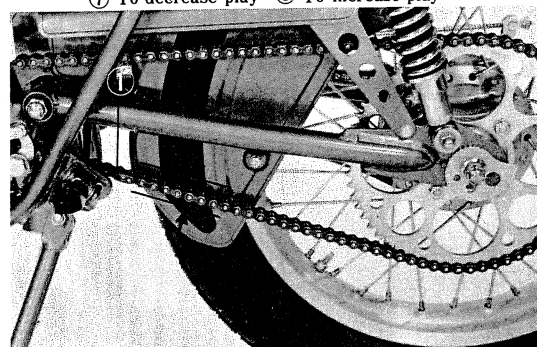

Fig. 10 ① Drive chain
- 1) Check the tension of the drive chain. This is done by moving either of the top or bottom side of the chain up and down with fingers midway between the sprockets. Drive chain tension should be adjusted to allow approximately  $\frac{1}{4}$ " inch vertical movement at this point. (Fig. 10) Rotate the rear wheel and check drive chain tension throughout its length.